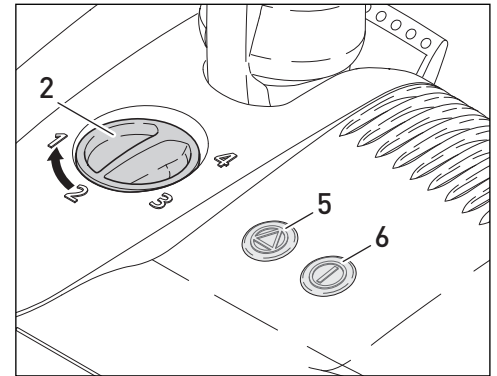

Figure 1
Operating the Power Head - Figures 1 & 2
B. To clean delicate or hard floor surfaces with straight suction only, the power head is equipped with an on/off switch (#6, figure 1)*. When this switch is used to turn off the brush roller, the green light will change to yellow, indicating to the user that the brush roller is not turning. Pushing the button again will turn on the brush roller and the light will turn green.
The Brush Height Adjustment Feature - Figure 1
Indicator Lights - Figures 1, 2 & 3*
| Green On/Off Light*: (#6, figure 1) | Brush is on and spinning. |
| Yellow On/Off Light*: (#6, figure 1) | The brush roller has been switched off and the vacuum is operating with straight suction only. |
| Red Brush-warning Light: (#5, figure 1) | The brush is not fully engaged in the carpet. The height adjustment should be lowered. If the height adjustment is at its lowest setting, the brush is worn and needs to be replaced. |
| Red Brush-warning Light Flashing: (#5, figure 1) | The brush is blocked. Turn off the power head, disconnect it from the power source, and then remove the blockage (see page 7). |